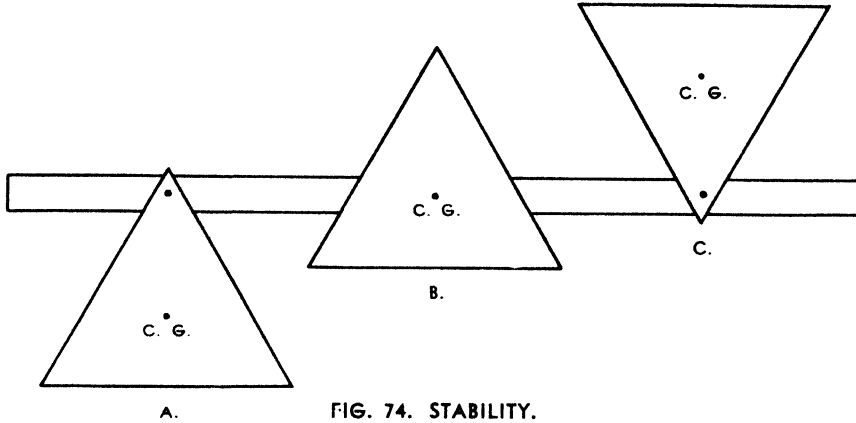

FIG. 74. STABILITY.
1. positive (stable), 2. neutral, and 3. negative (unstable). Fig 74 (A, B, C) illustrate these. If the triangle, Fig. 74A is moved it will assume